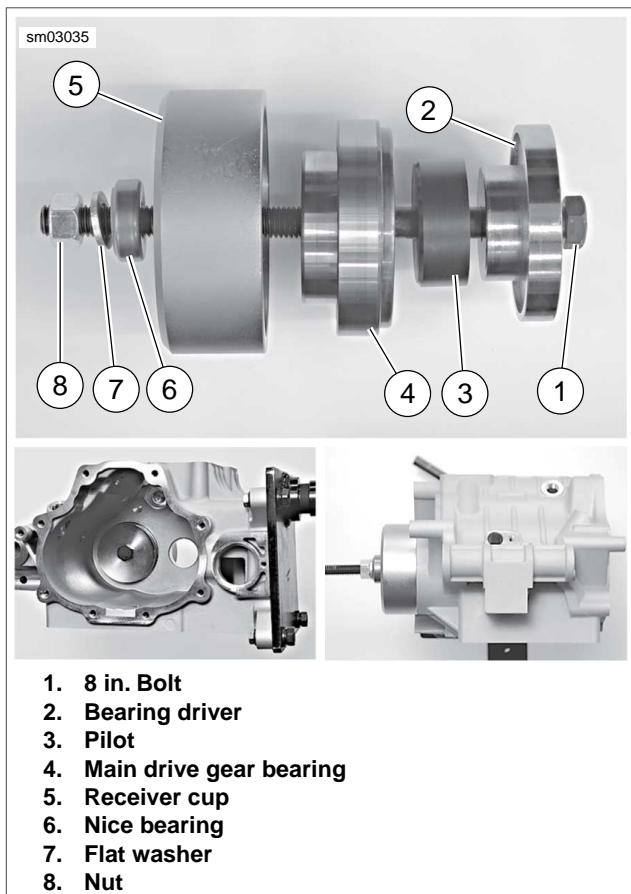

Figure 7-35. Removing Main Drive Gear Bearing
5. See Figure 7-35. Slide PILOT (Part No. HD-35316-10) (3) over small end of BEARING DRIVER (Part No. HD-35316-9) (2).
6. Insert 8 IN. BOLT (Part No. HD-35316-4A) (1) through bearing driver and pilot.
7. Insert bolt with bearing driver and pilot into right side of transmission case, through main drive gear bearing (4). Make sure bearing driver fits up against main drive gear bearing and pilot is centered in bearing bore.
8. At left side of case, slide RECEIVER CUP (Part No. HD-35316-11) (5) onto bolt and over main drive gear bearing. Install NICE BEARING (Part No. RS-25100-200) (6), flat washer (7) and nut (8) over end of bolt.